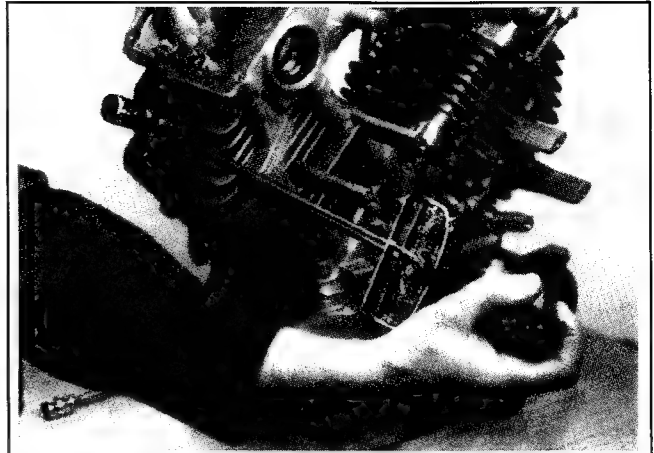

Figure 11-46. Torque Spark Plugs.
2. Tighten plugs to **24.4/29.8 N·m (18/22 ft. lbs.)** with torque wrench. See Figure 11-46.